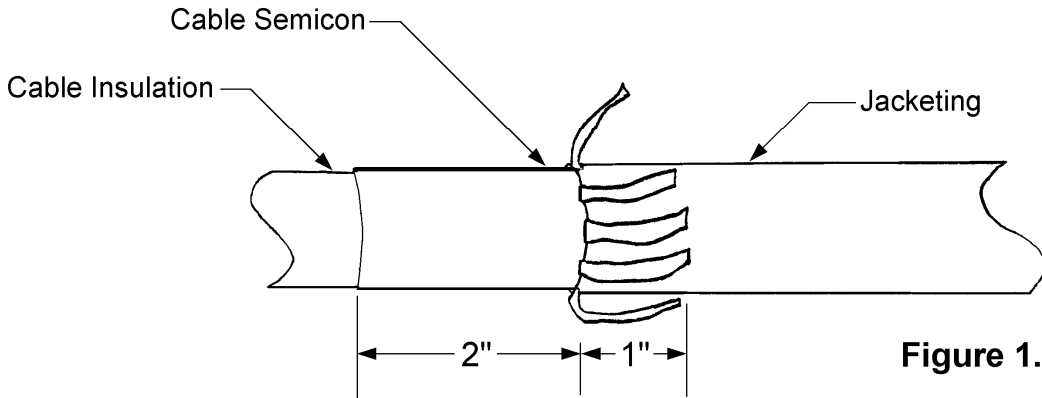

Figure 1.
2. Cut the flat strap one-inch from the jacketing cutback and bend out of the way (Fig. 1).